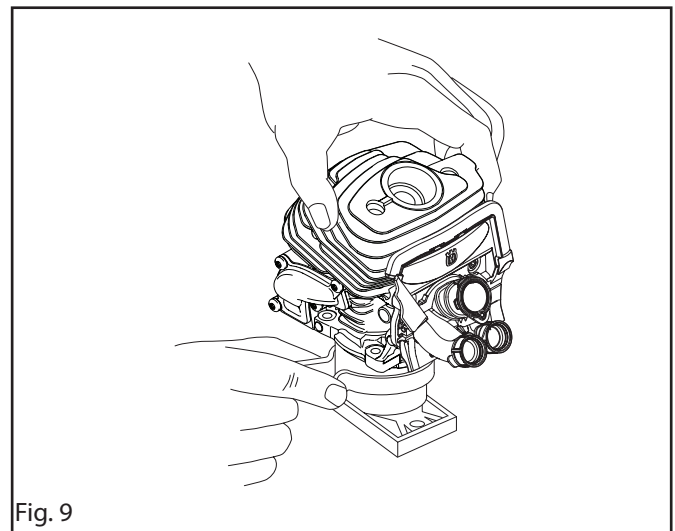

Fig. 9
7. Compress the piston ring, either by hand or with tool Piston assembly kit. See figure 9. Carefully fit the cylinder.